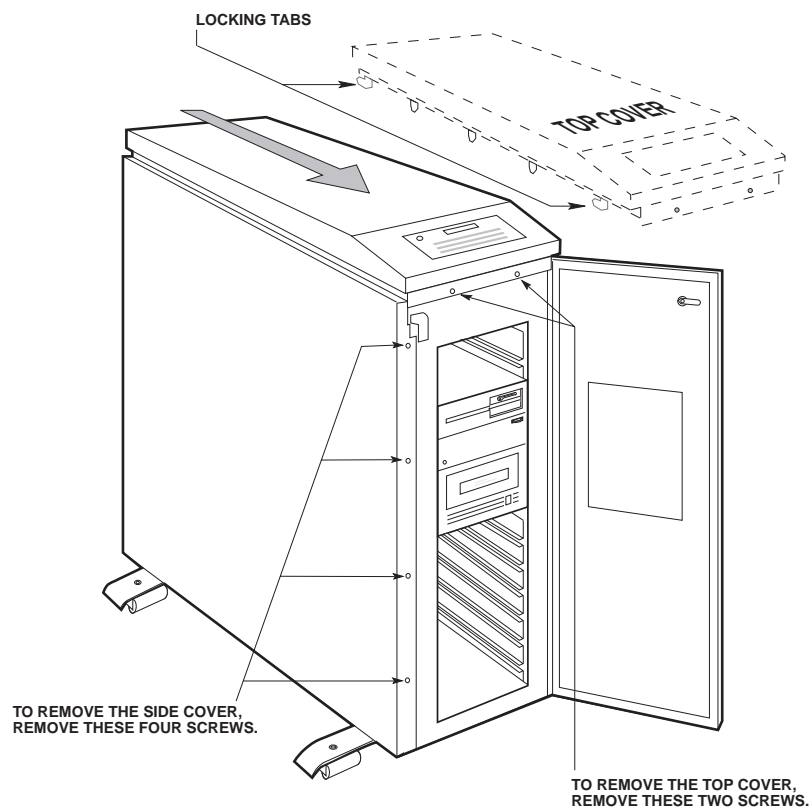

Figure 4: AM-990 Enclosure Removal
- Swing the front door open to expose the screws that hold the top cover in place. See Figure 4, below.